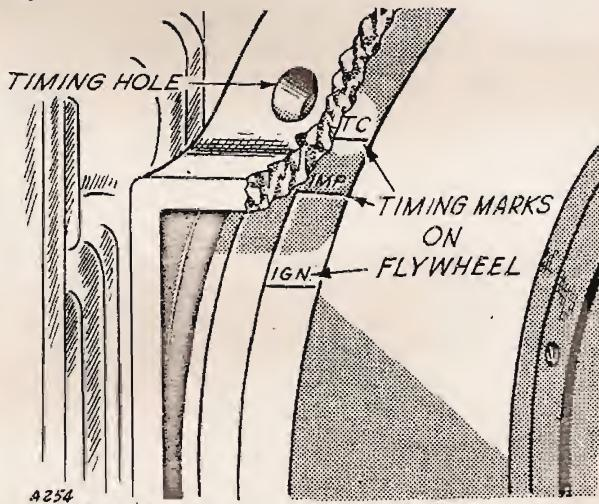

Fig. 22 Ignition Timing Marks
**IGNITION TIMING.** - Correct ignition timing is important to good engine performance. The ignition timing should be checked after servicing or replacing the magneto contact points. Refer to Fig. 22.